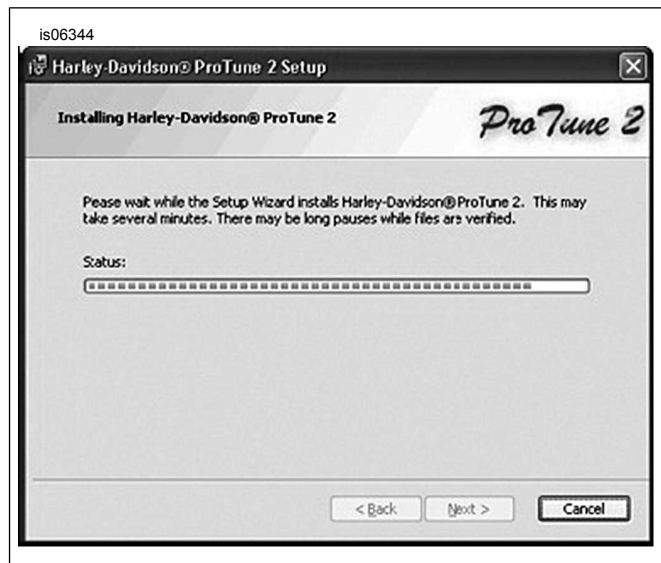

Figure 4. Installing Pro Tune 2
- See Figure 4. ProTune II will now install and copy files to your computer. If a warning message appears during driver installation click **Install/Continue Anyway**.